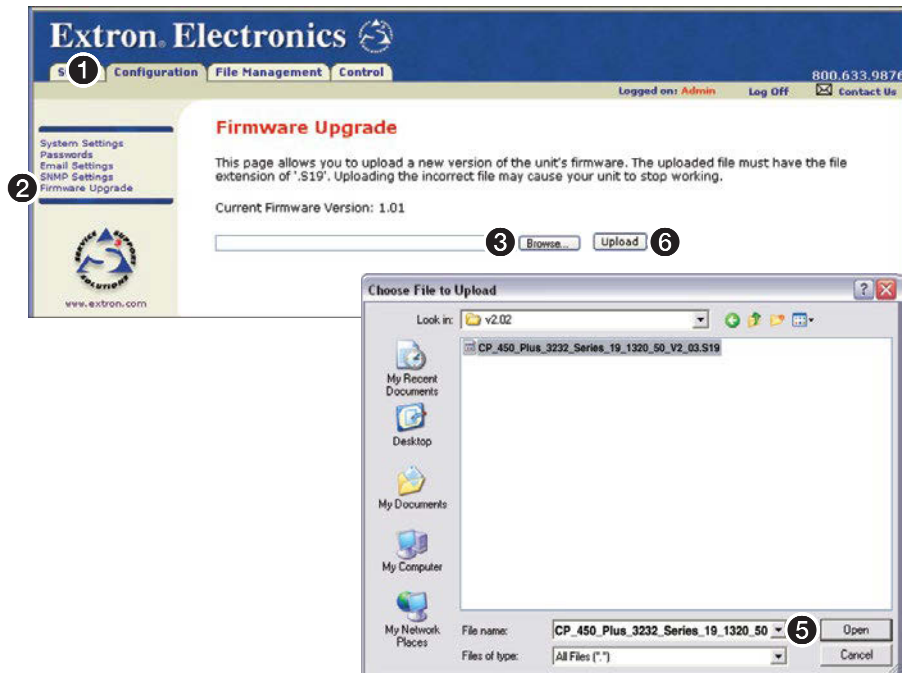

Figure 92. Firmware Upgrade
4. Click the **Configuration** tab (see figure 92, ❶).
5. Click the **Firmware Upgrade** link (see figure 92, ❷).
6. Click the **Browse** button (❸). A **Choose File to Upload** dialog box appears.
7. Navigate to the folder where you saved the firmware upgrade file. Select the file (❹).